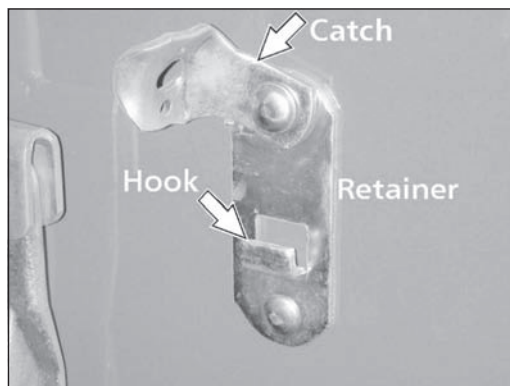
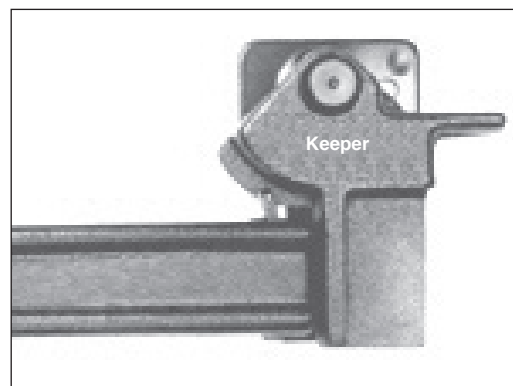

Fig. 6 - Swing Door
Fig. 7 - Roll-Up Door
1. Drill/grind the bolts out of the handle retainer assembly (for swing door) or the handle keeper (for roll-up door). (See Figure 6 for Swing Door and Figure 7 for Roll-Up Door.)